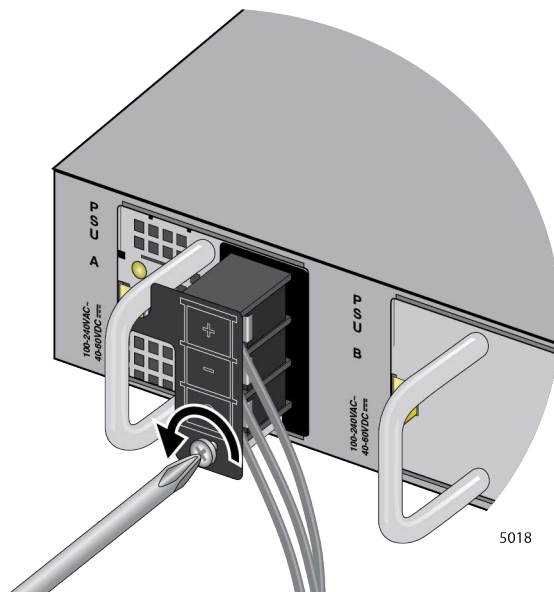

Figure 150. Loosening the Screw for the Panel
2. Loosen the screw for the connector panel with a Phillips-head screwdriver. Refer to Figure 150.